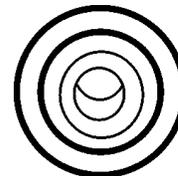

Figure 42. Pre-Heat Lamp
3. Depending on the temperature of the coolant (cold weather conditions), the pre-heat lamp (Figure 42) will light (ON) and remain on until the pre-heating cycle has been completed. After completion of the pre-heating cycle, the light will go OFF and the engine will start up automatically.